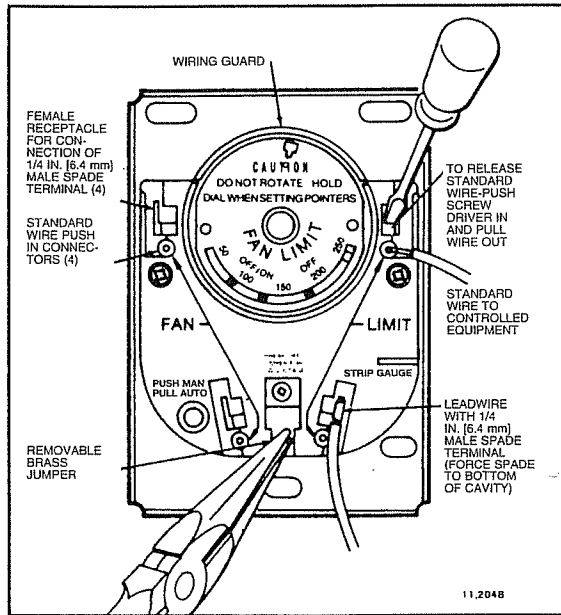

Fig. 5—Location of wiring connections.
The brass jumper is the breakaway type. It must be removed when the limit is used in the low voltage circuit. To remove jumper, break with a needlenose pliers and remove completely. Once removed, it is not replaceable. See Fig. 5 for location.
When connecting cable or conduit to this controller, use care to avoid strain on the control case. Connections can be made to standard wire push-in terminals or female receptacles for 1/4 in. [6.4 mm] male flag connectors on both the fan and limit switches (Fig. 5).
3. Push male flag connector directly into the female receptacle. Make sure that the flag is forced to the bottom of cavity and wire is in the channel (Fig. 5).